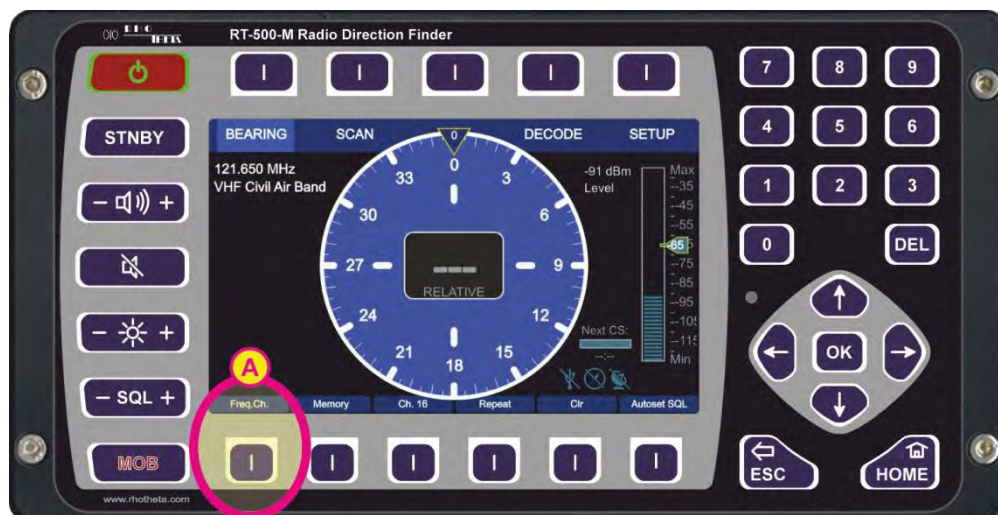

Figure 2. Start page (bearing page)
5. When the DCU is turned on, the ON/OFF button lights green and after approximately 20 seconds the bearing page is loaded (s. Figure 2). To turn off the DCU hold the ON/OFF button pressed for about 2-3 seconds.
- o Push the hotkey “Freq.Ch.” (s. field “A”, Figure 2).